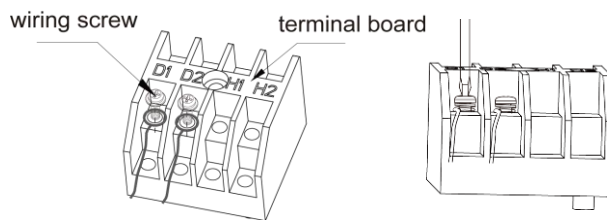

Fig. 5.3.1
- (1) Detach the electric box lid.
- (2) Let the Communication cable pass through the wiring through-holes.
- (3) Connect the communication wire to terminal D1 and D2 of indoor 4-bit wiring board, as shown in fig. 5.3.1.